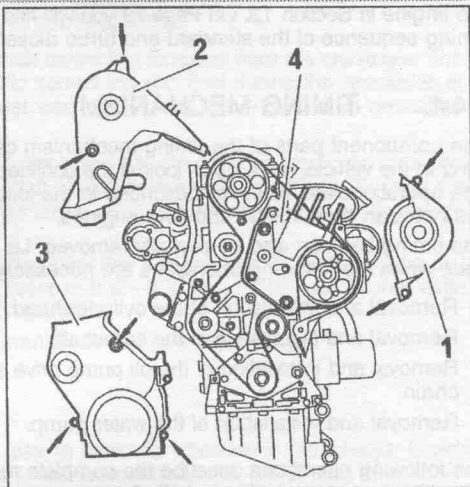

Fig. 1.54. — The parts 1 to 4 must be removed from the front end of the engine to gain access to the timing belt. The numbers are referred to in the text.
- Refer to Fig. 1.54 and remove the parts shown in the illustration. These are:
- Slightly raise the engine with a rope and a hoist and remove the lower engine mounting bracket near the timing cover, shown by (4) in Fig. 1.54. Refit the crankshaft pulley without the thrust washer after the operations above have been carried out.
- Refer to Fig. 1.54 and remove the parts shown in the illustration. These are: The timing cover (1), the timing cover (2) after pushing the flexible pipe out of the way and the timing cover (3).
- Slightly raise the engine with a rope and a hoist and remove the lower engine mounting bracket near the timing cover, shown by (4) in Fig. 1.54.